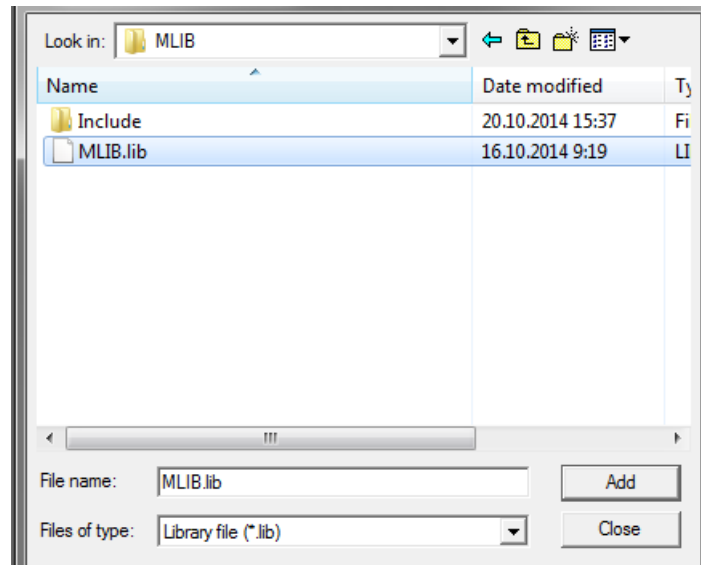

Figure 1-30. Adding .lib files dialog
5. Navigate to the parent folder C:\NXP\RTCESL\CM7F_RTCESL_4.5_KEIL\MLIB, and select the *mllib.lib* file. If the file does not appear, set the Files of type filter to Library file. Click Add. See Figure 1-30.